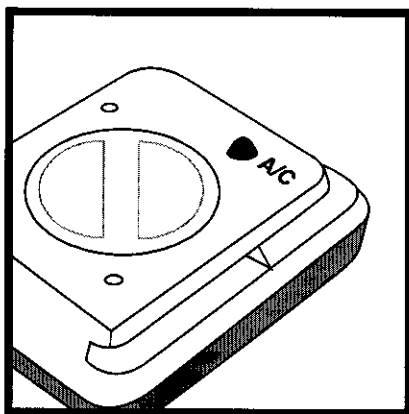

Fig. 24
1. Press All Clear on the back of the computer (Fig. 24) to erase all information including wheel size.